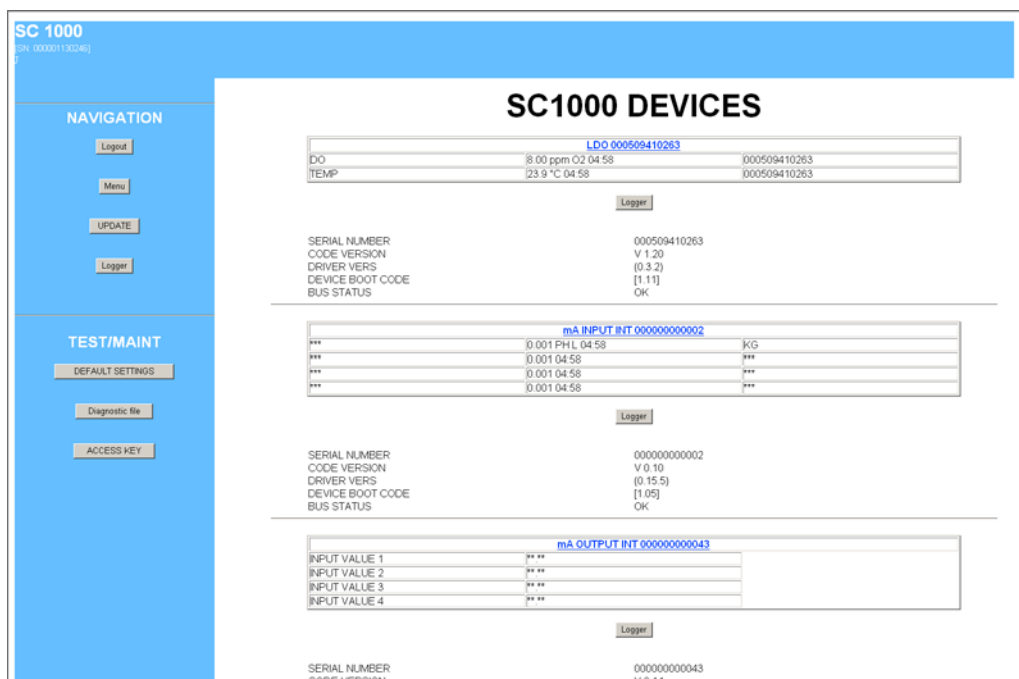

Figure 49 Browser access screen
6. The browser access screen is displayed (Figure 49 and Table 21).